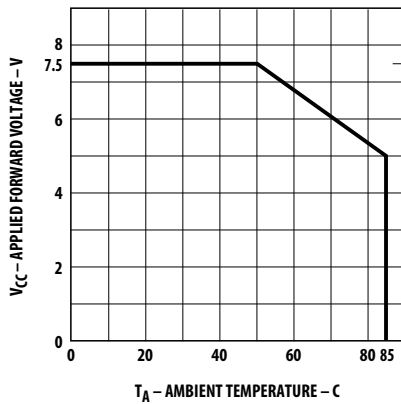

Figure 3. Maximum allowed applied forward voltage vs. ambient temperature  $R\theta_{JA} = 175^{\circ}\text{C/W}$ . 5 volt devices.
2. Derate from TA = 50°C at 0.071 V/°C, see Figure 3.